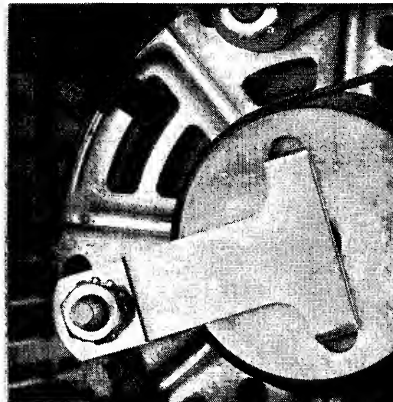

FIGURE 2-2
- 4) Stand the drive on edge to unlock the spindle lock. (See Figure 2-2.)